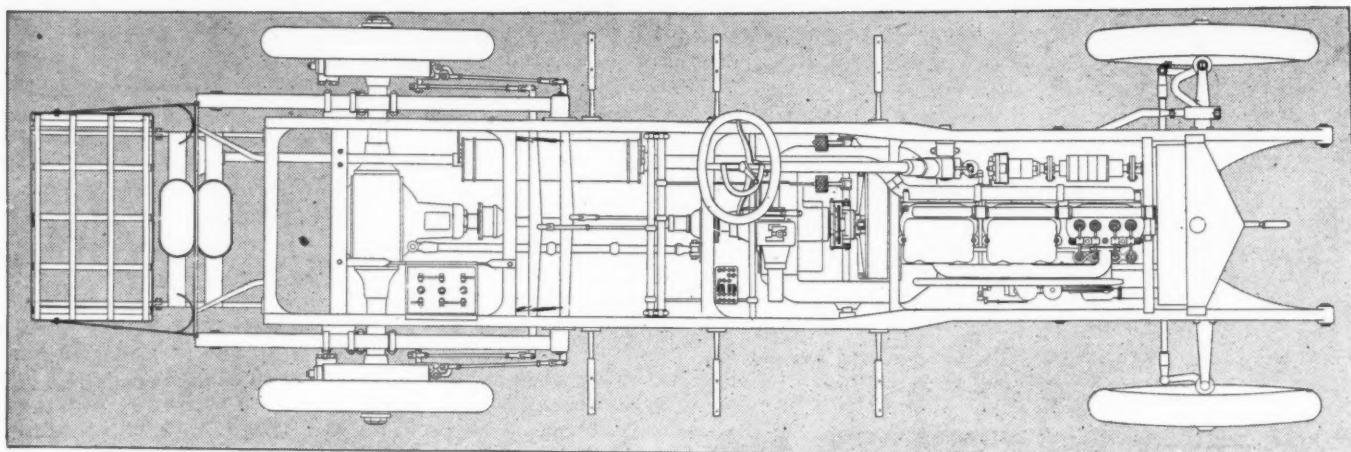

Fig. 1—Plan view of the new Knox little six chassis brought out for 1913 under the name of model 46
Fig. 1—Mounting of the fixed hubs in R.A.F. demountable wire wheels on different wheel-driving shafts—(1) on a non-floating type of shaft—(2) on a full-floating type of shaft